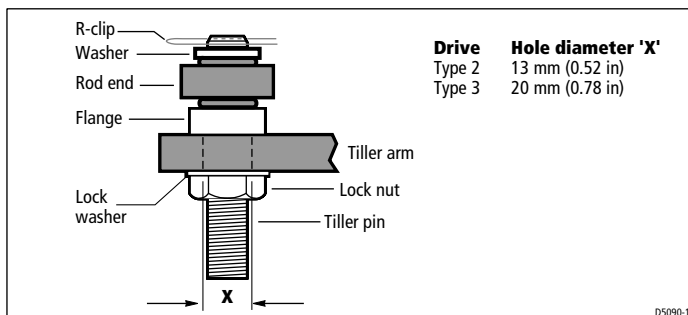

Figure 7: Attaching the push rod to the tiller arm
- tiller pin assembly (see *Figure 7*) consisting of: tiller pin, R-clip, top washer, lock washer, nut (UNC nylock)
- insert the tiller pin through the tiller arm hole, so the flange remains above the arm (see *Figure 7*)
- secure with the supplied washer and R-clip (see *Figure 7*)